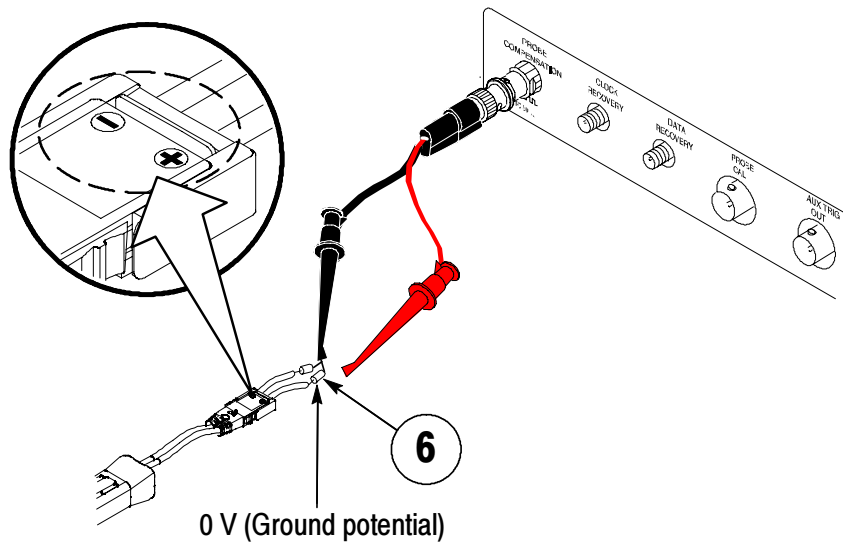

Figure 6: Short resistor leads
8. Use the (-) Minigrabber to short the resistor leads together and connect to a ground potential. See Figure 6.